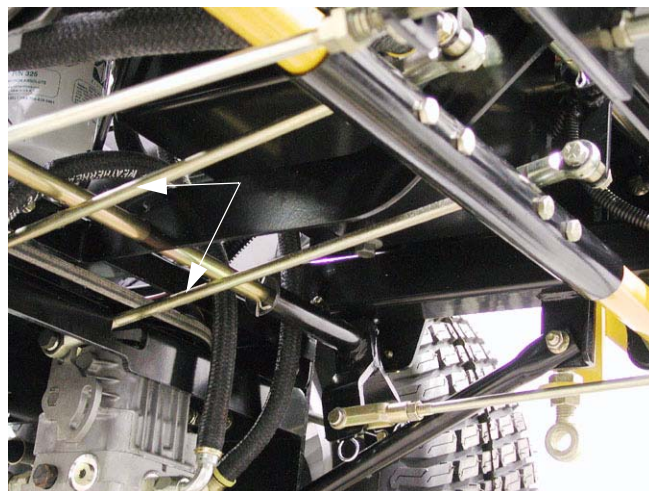

Figure 3.14
- 3.14. Loosen the jam nuts at each end of the hydro control link rods, and rotate the rods to lengthen or shorten them. See Figure 3.14.